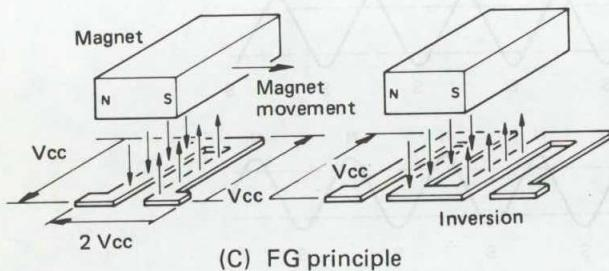

Fig. 4-2-5 Principle of frequency generator (FG)
As shown in Fig. 4-2-5, the frequency generator (FG) pulse is obtained from permanent magnets located on the rotor of the drum motor and capstan motor, which are detected by rectangular shaped coils distributed on the FG board. When the motor turns, electromagnetic induction produces detector voltage in accordance with Fleming's right hand rule.
By the arrangement of magnets and a corresponding number of detector coils indicated in Fig. 4-2-5, flux density can be small, while extreme precision is not required of the magnets and coils.